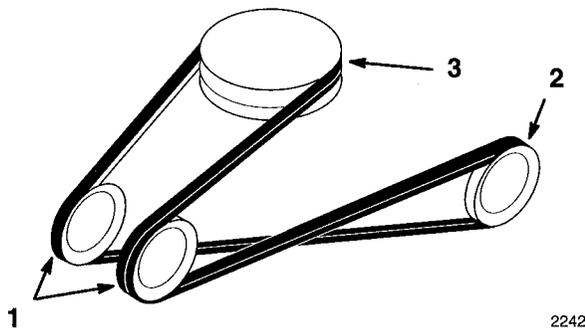

Figure 15
15. Route belt around snowthrower pulley, idler pulleys and upper groove of electric clutch (Fig. 15).